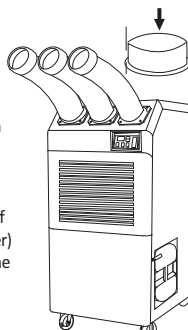

Figure 17
3. Use screws (enclosed inside of box with the top fan exhaust flange) to install the top fan exhaust flange on air conditioner as shown in Figure 17.